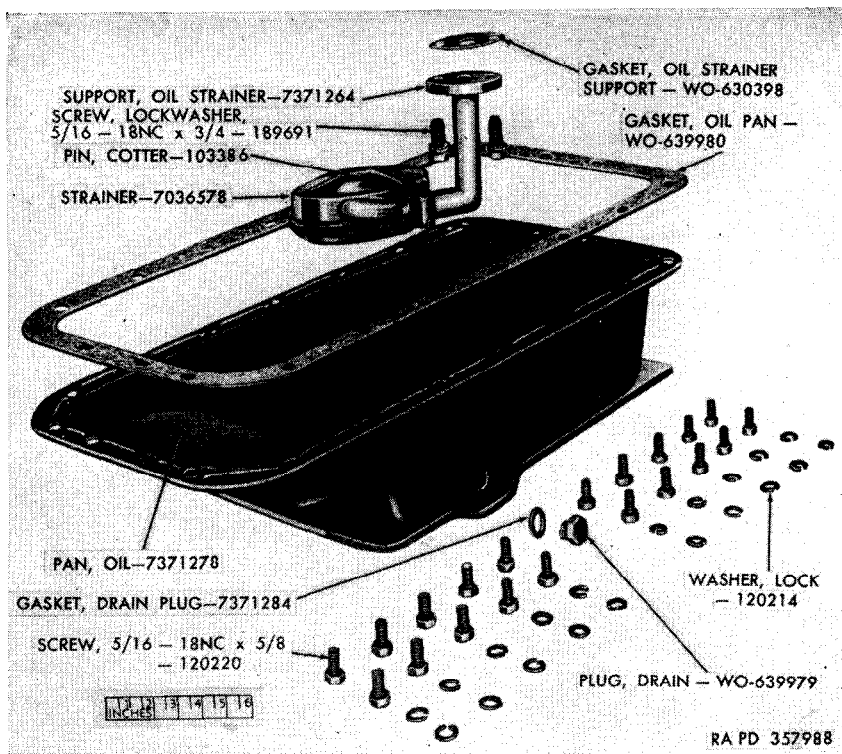

Figure 38. Oil pan—exploded view.
Turn the engine on its side. Remove the cap screws that secure the oil pan and fan pulley guard to the cylinder block (figs. 32 and 38). Remove oil pan and gasket. Remove the two cap screws from the oil strainer support and remove the oil strainer and gasket (fig. 38).
a. OIL PAN (fig. 38). An oil pan with stripped threads in the drain plug opening, or an oil pan that is badly dented or deformed, must be replaced.